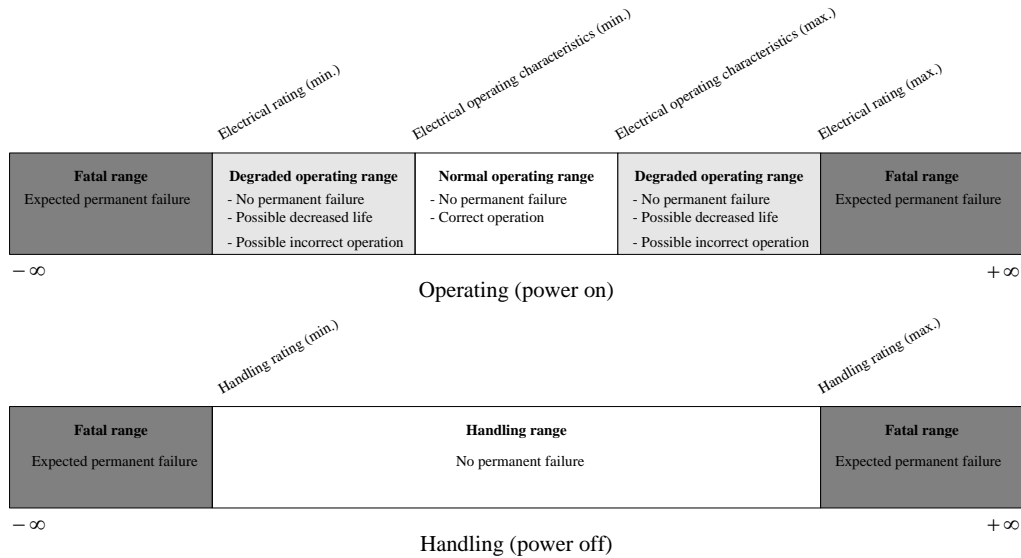

Figure 6. Relationship between ratings and operating characteristics
- To assure chip reliable operation, reserve enough margin for chip electrical design. Figure 6 shows the relationship between electrical ratings and electrical operating characteristics for correct chip operation.